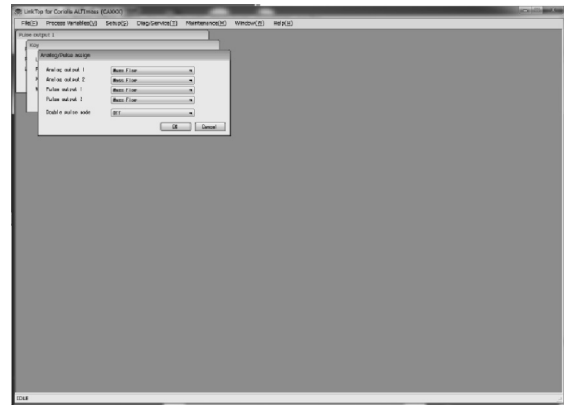

Fig.170
- ① Select "Cascade" to display these windows stacked, as shown in Fig. 170.